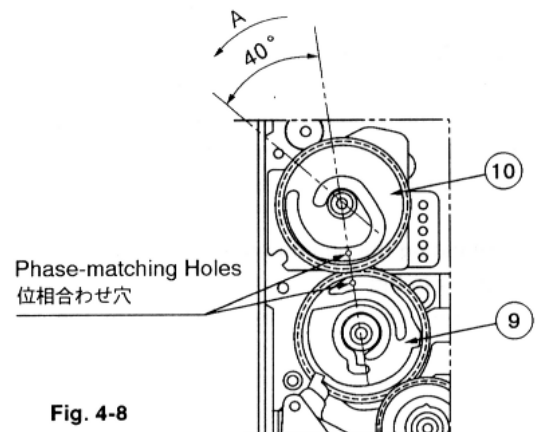

Fig. 4-8
- 1). Remove the three ①-i washers, then detach ⑤⑤, ⑤⑥, ⑩, ⑨, and ⑪, in this order.
Notes :• See that the phases of ⑩ and ⑨ when reinstalling are matched with each other, as shown in Fig. 4-8.
- After the phases are matched, move ⑩ in the direction of arrow A by an angle of about 40 degrees.
6. ⑤⑨ Sensor Block
- 1). ①-iワッシャ 3ヶを外し、⑤⑤、⑤⑥、⑩、⑨、⑪の順に外す。
注意• 組立時の⑩と⑨との位相は、Fig. 4-8を参照。
- 位相合わせ後は⑩を矢印A方向に約40°動かしておくこと。